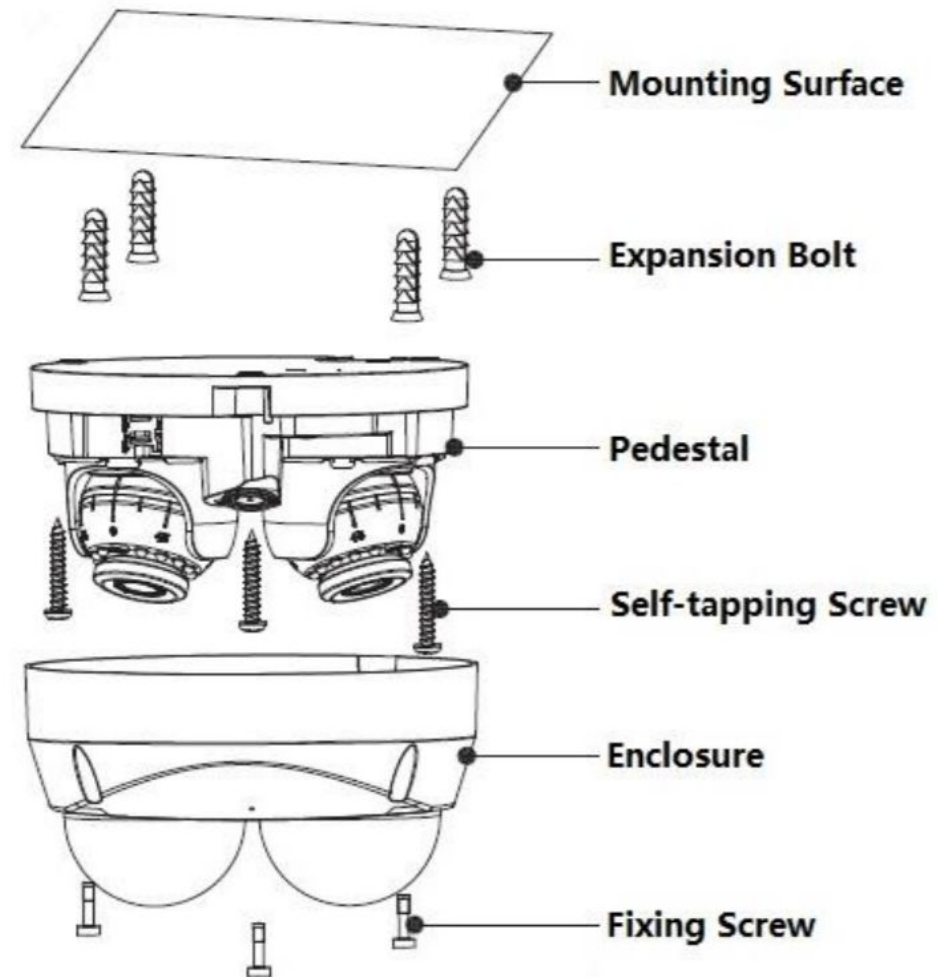

Figure 2-1
**Step 1** use the supplied wrench to remove the the fixing screws from the dome enclosure and remote it from the pedestal. See Figure 2-1.